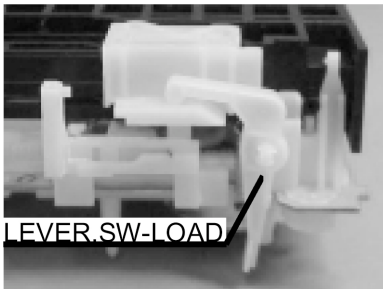

Fig.4-1
- 1) Remove the LEVER, SW-LOAD. (Fig. 4-1)